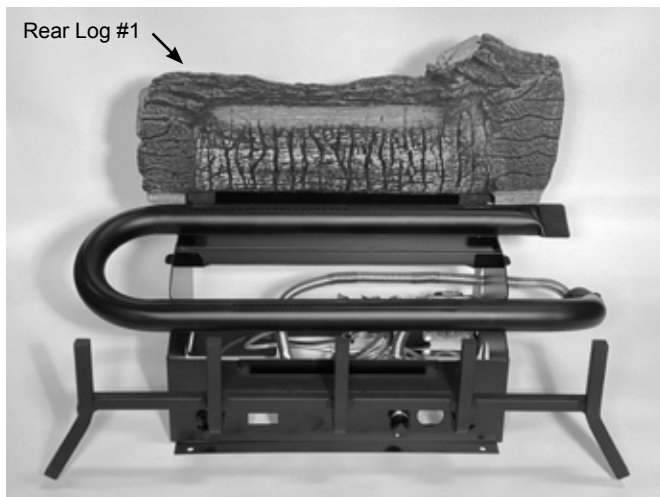

**Figure 6.4 - Place Top Right Log**
4. Place Top Right Log (#4) by resting log on front and middle log. Figure 6.4